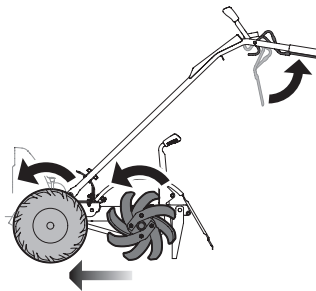

Figure 18
- b. As the tiller drives forward the tines will also rotate, digging into the ground. Walk behind and a little to one side of the tiller. Use a secure, comfortable grip on the handlebars. Let the tiller move ahead at its own pace. See Figure 18. To stop the forward motion of the wheels and tines, release the bail.